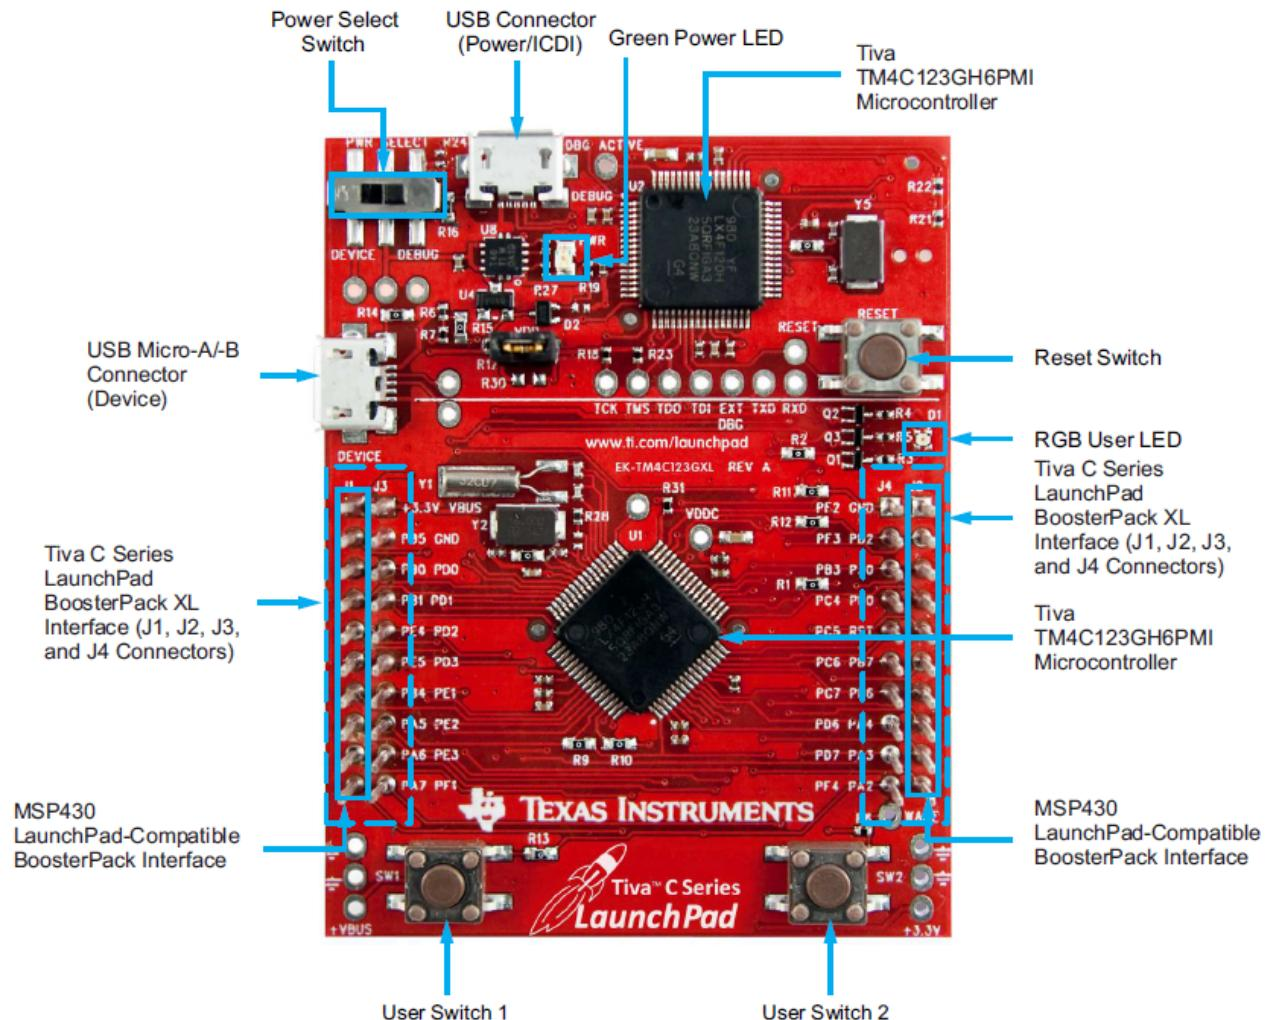

Figure 1.2: Launchpad Board
The key component used in the tutorials is the Tiva C Series TM4C123G (Stellaris) Launchpad board produced by Texas Instruments (TI). The board, illustrated in Figure 1.2, includes a user configurable TM4C123GH6PM micro-controller with 256 KB flash and 32 KB RAM as well as integrated circuit debug interface (ICDI). With appropriate software running on the host it is possible to connect to the TM4C123 (LM4F120) processor to download, execute and debug user code.
In Figure 1.2, there is a horizontal white line slightly above the midpoint. Below the line are the TM4C123GH6PM, crystal oscillators, user accessible RGB LED, user accessible push-buttons and a reset push button. Above the line is the hardware debugger interface including